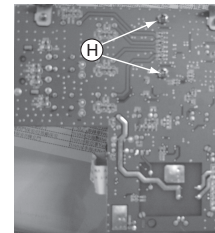

Figure 9
- 3) Loosen 2 screws "H" at the bottom of Wireless Main Board to remove Heat Sink as shown in figure 9.